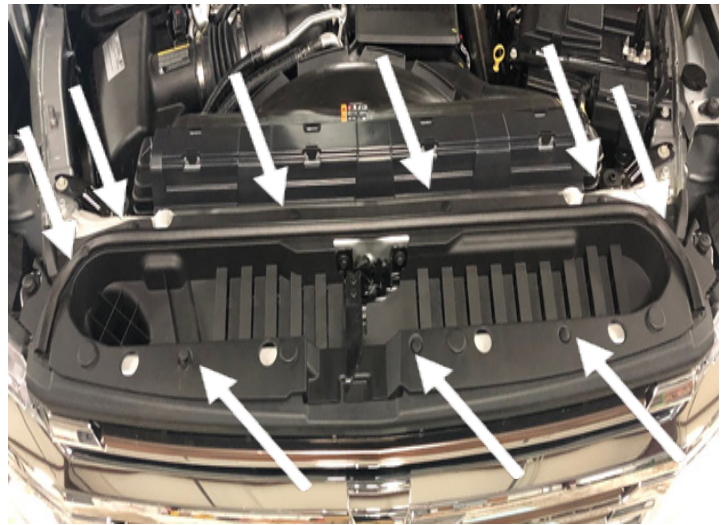

Figure 5
5. Use a body pry tool to remove the nine (9) push pins holding the grill cover. Figure 5.